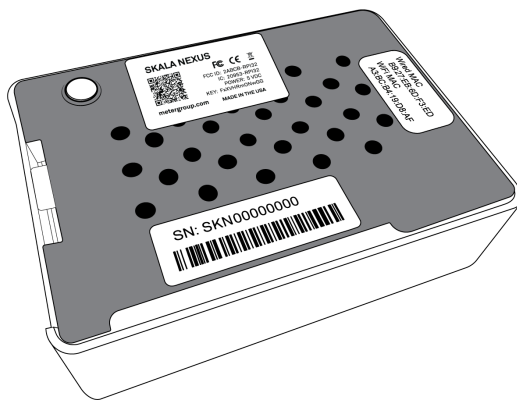

Figure 3 NEXUS back view
3. Open the Apple App Store by scanning the QR code on the back of the NEXUS device (Figure 3).